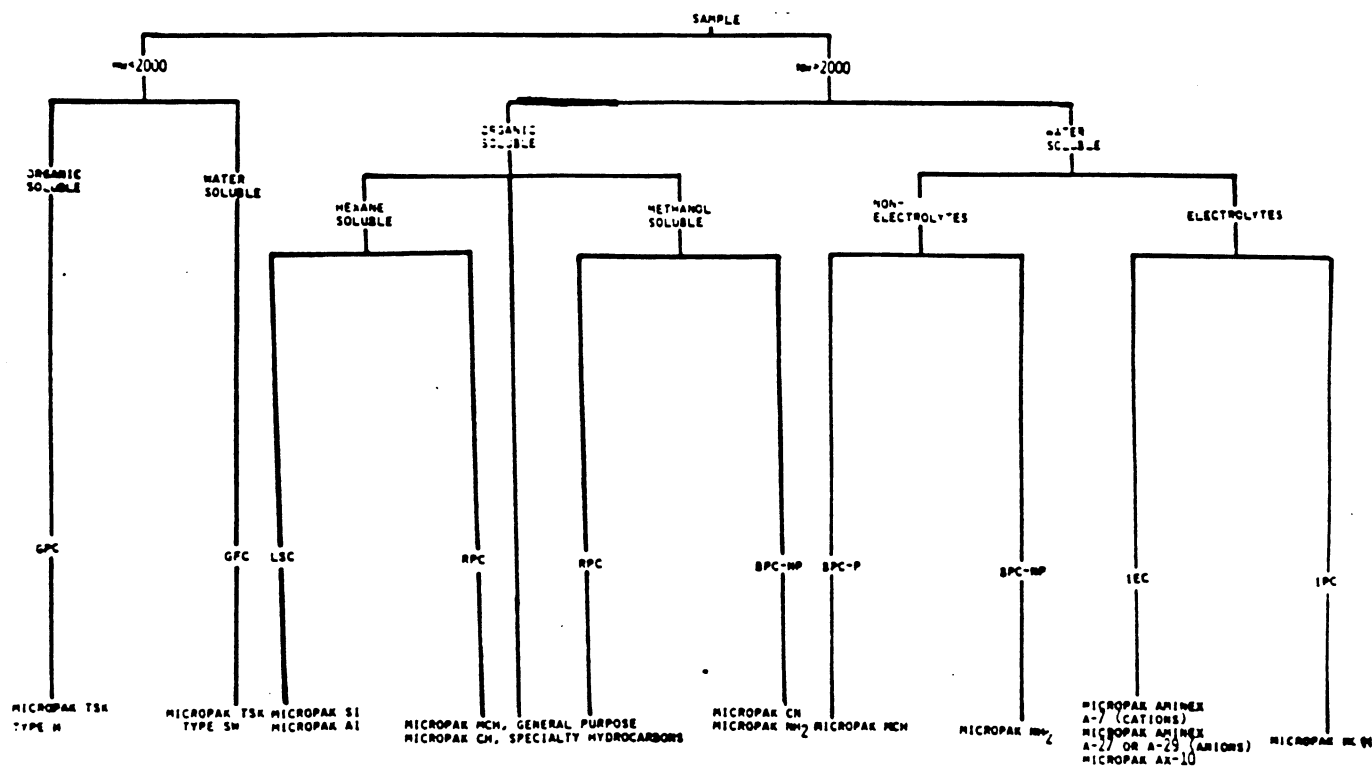

FIGURE 1
1. Classify the sample according to physical properties which may include, (follow Figure 1 in the column selection guide).
If the sample is greater than 2000 M.W. then you would go to a size exclusion technique. If it is less you would go to a partition technique (see Figure 1).